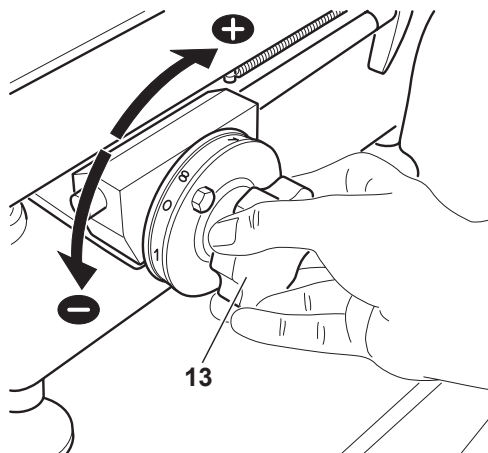

Figure 12-2
5. Pull the slice thickness control dial (13) out towards operator and turn clockwise to the desired setting (Figure 12-2).